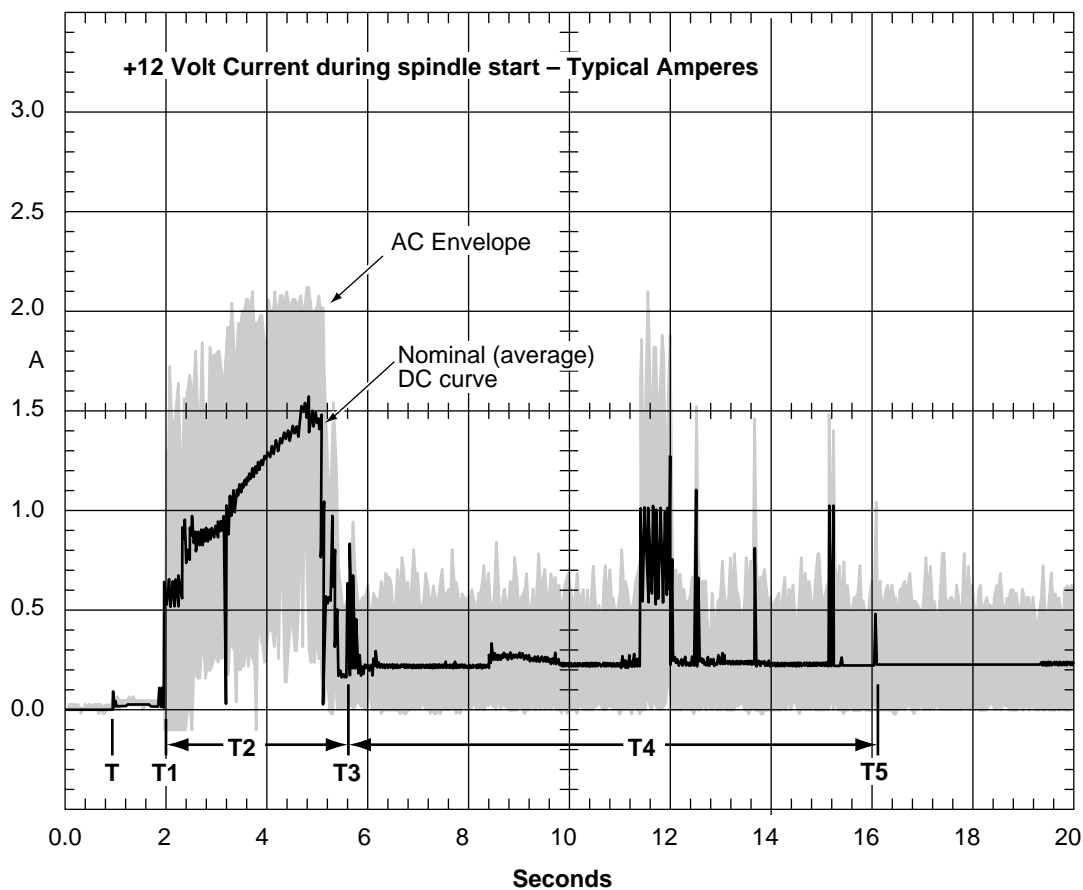

Figure 3a. Typical Barracuda 18XL family drive +12 V current profile
- [3] See +12 V current profile in Figure 3a.
Figures 3a and 3b identify the drive +5 V and +12 V current profile. The current during the various times is as shown: